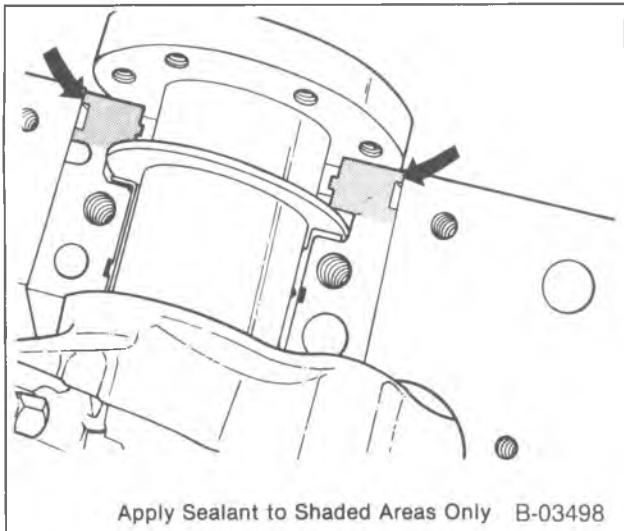

Figure 54—Applying Sealant to the Block
- On 7.4 L engines, apply a brush-on type oil sealing compound to the mating surface of the block and cap (figure 54). Do not allow any sealant on either crankshaft or rear oil seal.